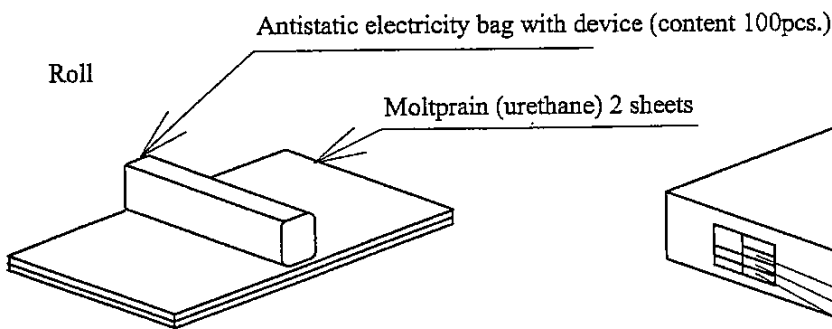

Fig.2
2. 4 rolls with 2 moltprain based on 1 are packed in packing box. (Fig. 2)